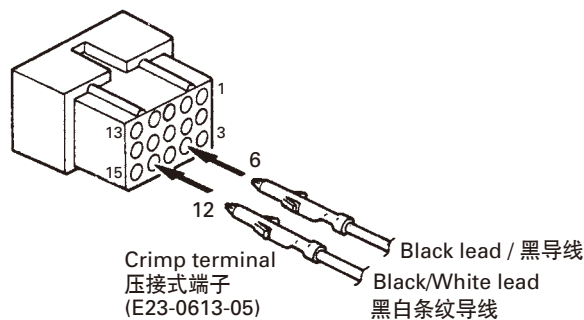

Fig. 2-3 / 图 2-3
3. Reinsert the terminal with the black and white stripe lead into hole number 12, and the terminal with the black lead into hole number 6. (Fig. 2-3)
3. 将带黑白条纹导线的端子插入第12孔, 将带黑导线的端子插入第6孔。(图 2-3)